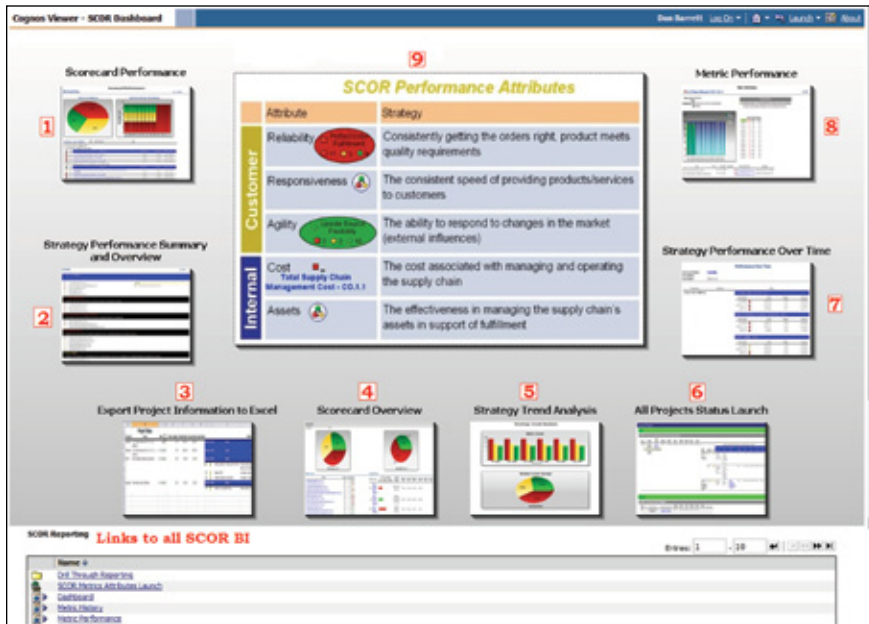

Figure 3. SCOR Blueprint dashboard
The SCOR dashboard (Figure 3) is the launching point for access to all content in the *SCOR Blueprint*. The top of the portal has links to specific business intelligence (BI) as outlined by the numeric references in red. The bottom of the portal has navigation directly to the BI and Metrics in the *Blueprint*.